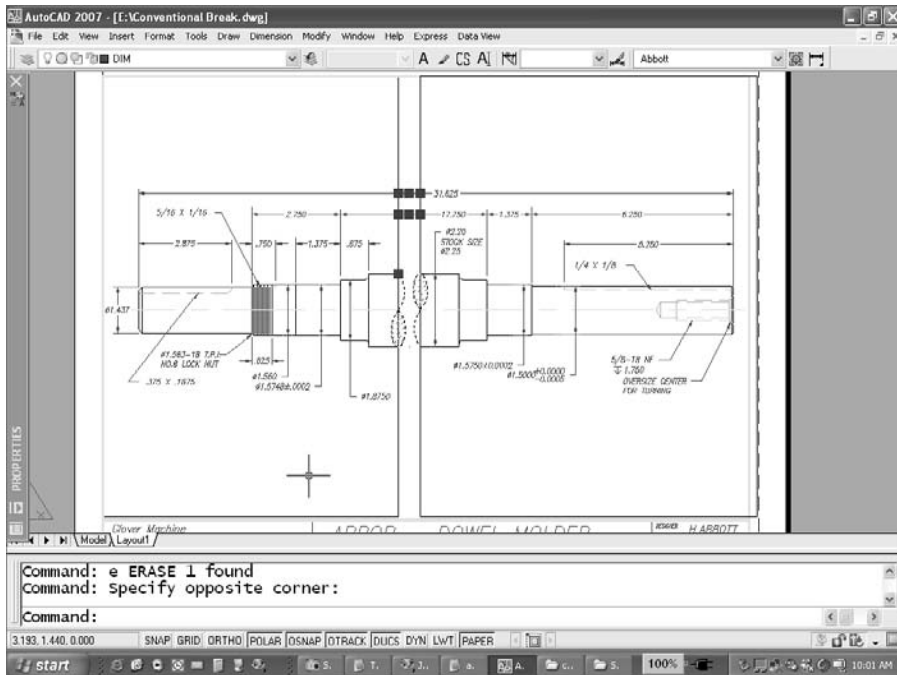

Figure 6.28
8. Add dimensions to the part. To add any dimension that spans the two floating viewports, activate one, start the dimension, and then click inside the other to finish it. If a dimension spans both viewports (as two of them do in Figure 6.28), connect it between the two viewports by drawing a short line segment in Paper Space, and then move the dimension text so it's displayed in one of the viewports.